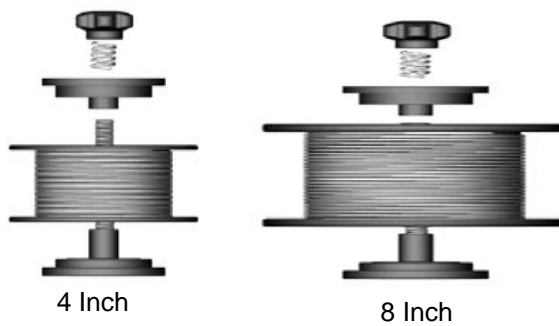

Figure 5
- v. The welder can use either 4 inches or 8-inch spools. See Figure 5 for additional reference. The wing nut controls the tension on the spool.